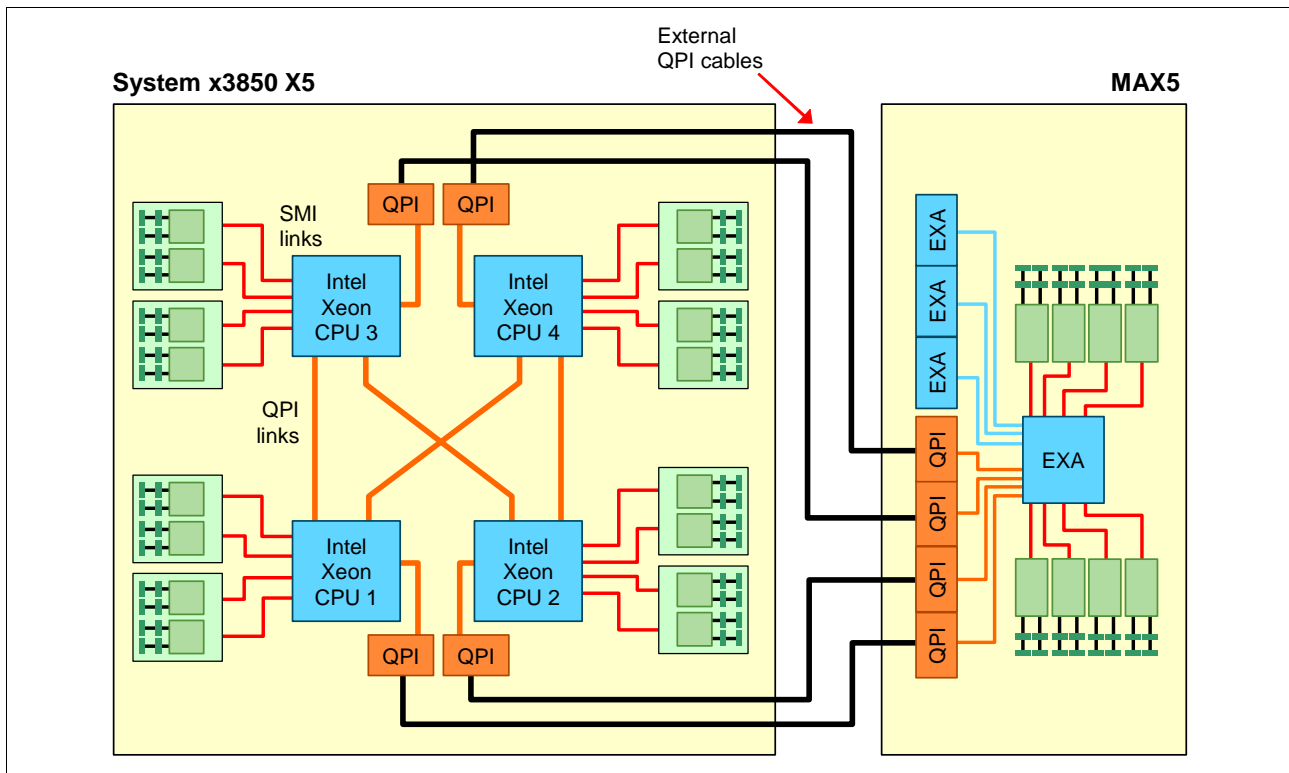

Figure 3-12 The x3850 X5: Connectivity of the system unit with the MAX5
Figure 3-12 on page 70 is a block diagram of the x3850 X5 connected to a MAX5.
The MAX5 is connected to the x3850 X5 using four cables, connecting the QPI ports on the server to the four QPI ports on the MAX5. Figure 3-12 shows architecturally how a single-node x3850 X5 connects to a MAX5.
Tip: As shown in Figure 3-12 on page 70, you maximize performance when you have four processors installed, because you then have four active QPI links to the MAX5. However, configurations of two and three processors are still supported. If only two processors are required, consider the use of the x3690 X5.
Tip: As shown in Figure 3-12 on page 70, you maximize performance when you have four processors installed because you have four active QPI links to the MAX5. However, configurations of two and three processors are still supported.
- ▶ When using a MAX5 memory expansion unit, as shown in Figure 3-12 on page 70, you maximize performance when you have four installed processors because there are four active QPI links to the MAX5. However, configurations of two and three processors are still supported.